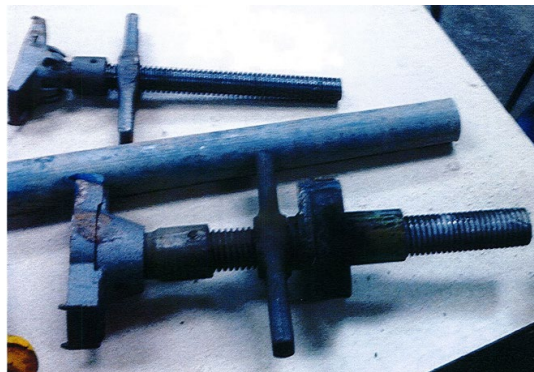

Fig. 6
5. Screw jack braces, (shown in Fig. 6, below), shall be tensioned to 2,400 lbs. minimum. In order to ensure this load is met, the screw jacks shall first be hand tightened and then tightened with a 2'± long "cheater bar" as tight as possible. The vertical 2"x12" or sheet pile shall sink into the soil, but at maximum load, the soil should not give and the pressure in the screw jacks shall stabilize. The screw jacks should never loosen up in the trench. The pressure on the screw jacks shall be checked, before reentering the trench, every morning at a minimum, and retightened as required. The 1 ½" diameter pipe should be used with the 1 ½" screw jack. The 2" and 3" diameter pipes should always be used with the 2" screw jack. All pipe must be schedule 40 or heavier.